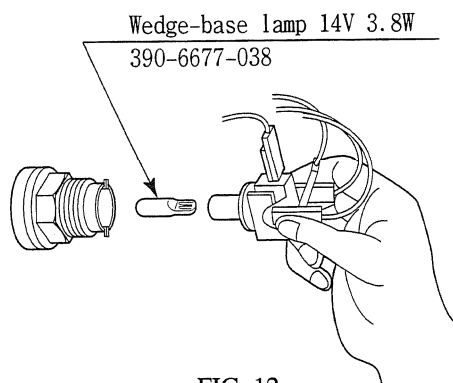

FIG. 12
- ① Turn the power switch in the satellite AC unit to OFF.
- ② Remove the 6 screws to remove the front cover (Photo 12j).
- ③ To prevent accidents, remove the fluorescent lamp.
- ④ Disconnect the 2 wiring connectors from the control panel.
- ⑤ Remove the 2 screws to allow removal of the control panel from the satellite.
- ⑥ Squeeze tightly on both sides of switch at the base of the button, and pull out from the button (Figure 12).
- ⑦ To replace, pull the lamp straight out without turning.